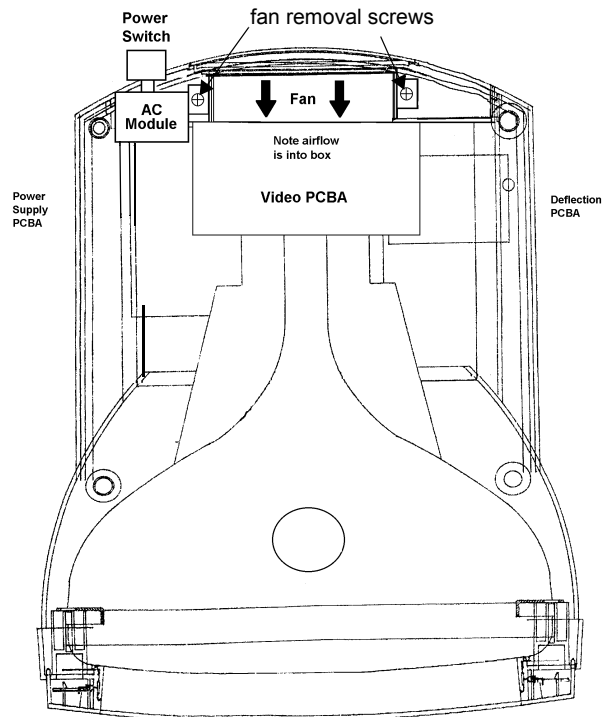

Figure 4-9: Fan location
3. Locate the fan on the rear of the display assembly and remove the screw on each side of the fan motor (refer to *Figure 4-9* below).